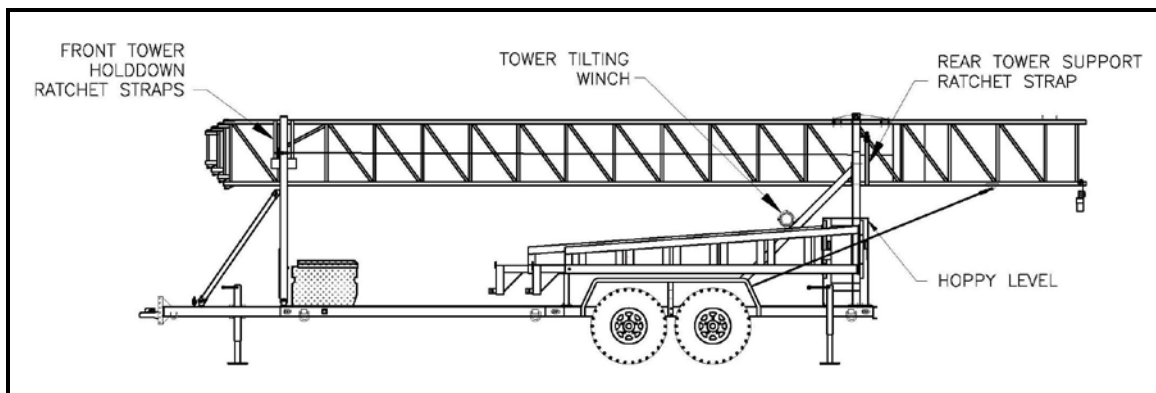
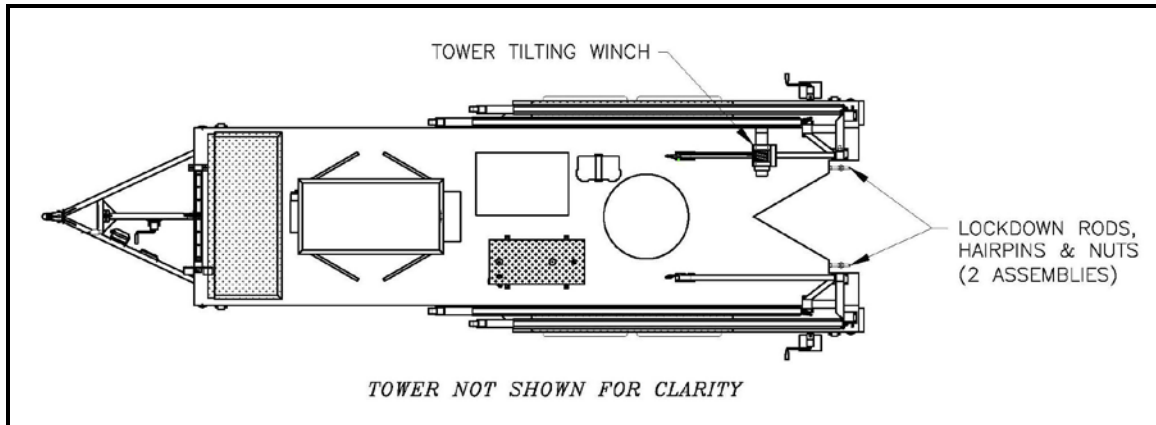

Fig. 7 Items for Titling Tower to Vertical Position
Fig. 8 Tilting Tower to Vertical Position
1. Release tension on the rear tower support ratchet strap. Unlatch the locking carabiner from eyebolt and remove strap from under the tower to allow tower to pivot to vertical position (*see Fig. 7*).
2. Release tension on both front tower holddown ratchet straps. Unlatch both locking carabiners from eyebolts and remove strap from over tower to allow to pivot to vertical position (*see Fig. 7*).
3. Remove hairpins and outer nuts from lockdown rods located on rear of trailer (*see Fig. 8*).
horizontal to vertical position (*see Fig. 7*). Guide the slots in the tower lockdown channel over the lockdown rods at the opening on the rear of the trailer frame (*see Fig. 8*).
5. Operate tower tilting winch on rear tower support structure to tilt tower from vertical to horizontal position. Lower the tower to the horizontal position and secure the tower with both ratchet straps and carabiner latches. Be sure locking mechanism on carabiners is engaged. Ratchet the lockdown straps with a fair amount of tension to keep tower from bouncing up and down while traveling (*see Fig. 7*).